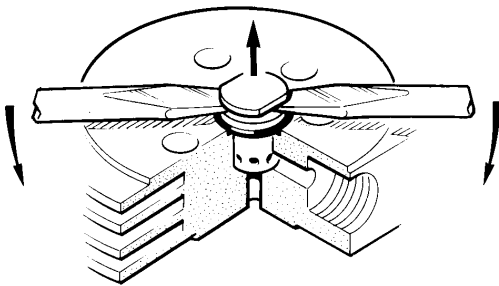

Fig. 42 Removal of 3rd stage pressure valve
- Remove two captive nuts (1) and spring-washers (2).
- Remove plate (3).
- Remove valves (4) and (7) using two screw-drivers as shown in Fig. 42.
- Assemble in reverse sequence. Position spring-washers with curved side facing upwards. Fasten nuts so that plate (3) is parallel to the valve head. Torque with 10 Nm (1 kpm).
- Unwind torque stud (1) a couple of turns.
- Remove allen screws (7), take off valve head cover (6).
- Put two screwdrivers into the groove of pressure valve body (Fig. 42). If necessary turn valve loose at first using a 13 mm spanner on the flat surfaces.
- Lift out pressure valve (3) together with O-ring (2).